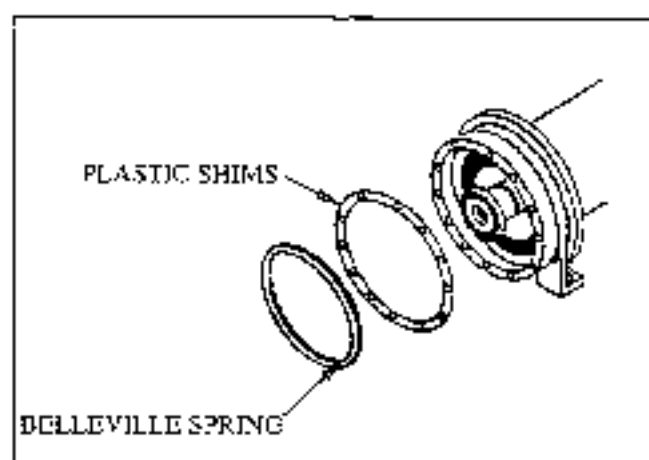

Figure 34
16. Install the belleville spring. See Figure 34.